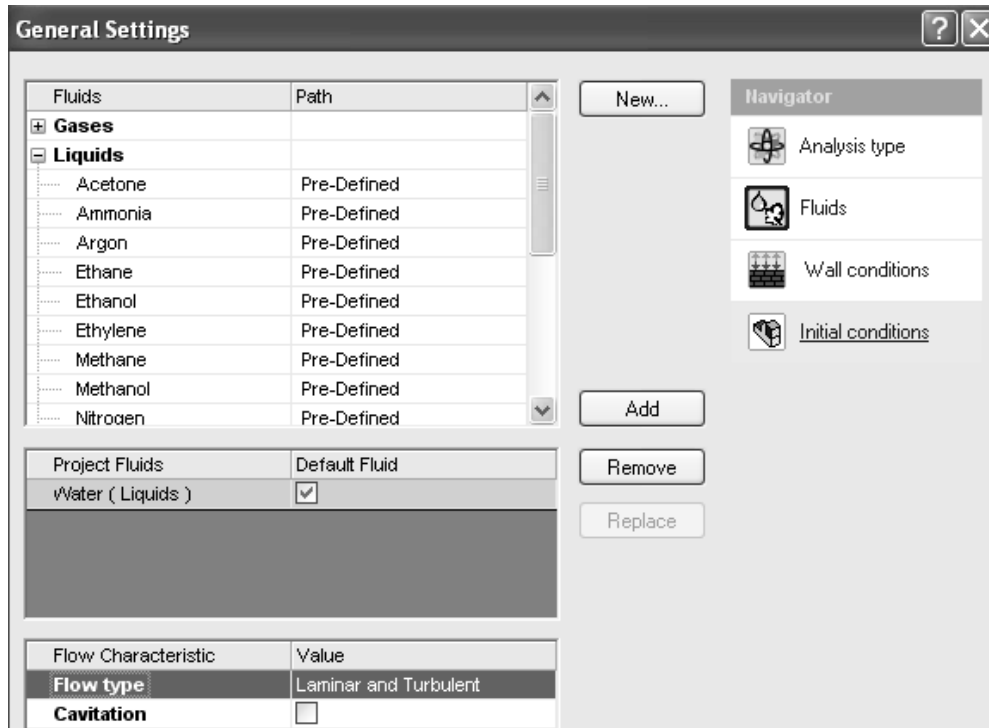

Figure 2.27d) Selection of fluid and flow type
29. In the next step, we will clone the project. Select **Flow Simulation>>Project>>Clone Project...** Create a new project with the name “**Flat Plate Boundary Layer Study Using Water**”. Click on the OK button to exit the **Clone Project** window. Next, change the fluid to water in order to get higher Reynolds numbers. Start by selecting **Flow Simulation>>General Settings...** from the SolidWorks menu. Click on **Fluids** in the **Navigator** portion and click on the **Remove** button. Select **Water** from the **Liquids** and **Add** it as the **Project Fluid**. Change the **Flow type** to **Laminar and Turbulent**, see figure 2.27d). Click on the OK button to close the **General Setting** window.